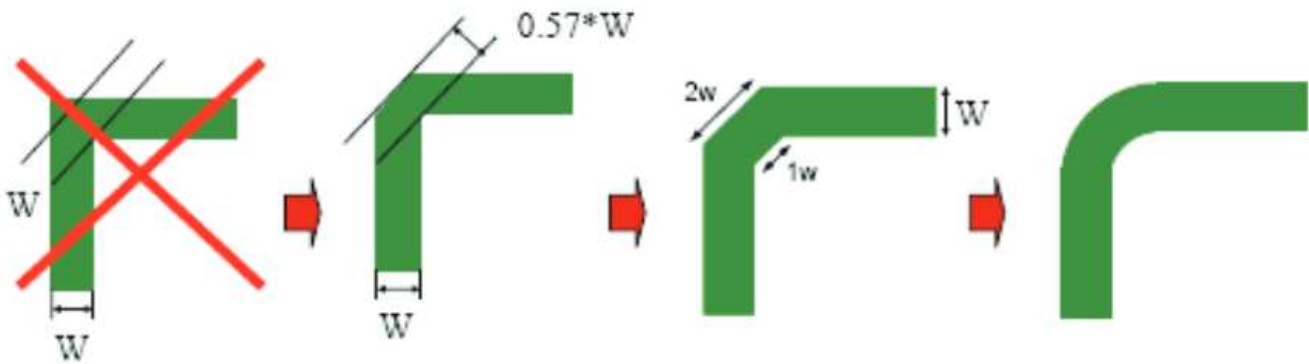

图 20. Poor and Good Right Angle Bends
- Avoid right-angle bends in a trace and try to route them at least with two 45° corners. To minimize any impedance change, the best routing would be a round bend (see 图 20).